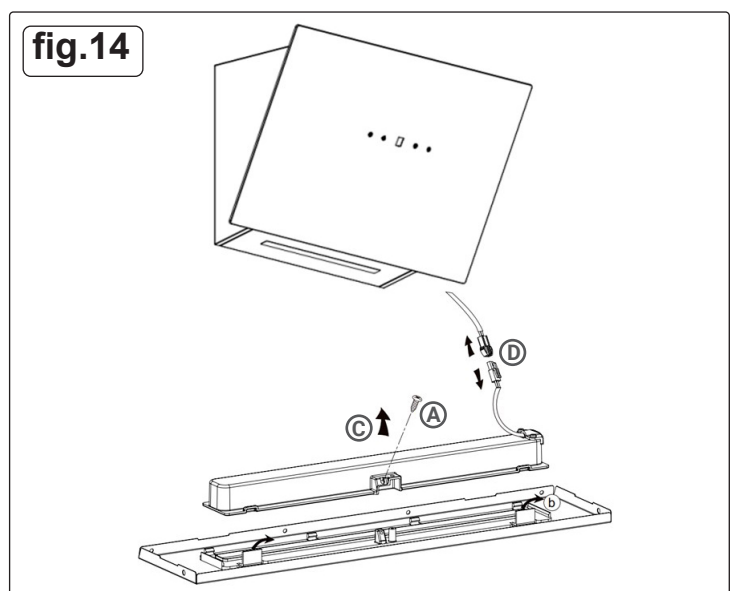

fig.14
- Find the lamp, use a cross head screwdriver to unscrew the screws on the lamp, unplug the buckle with care, remove the lamp base and dismantle the terminal of the light connecting wire. Fig.14.